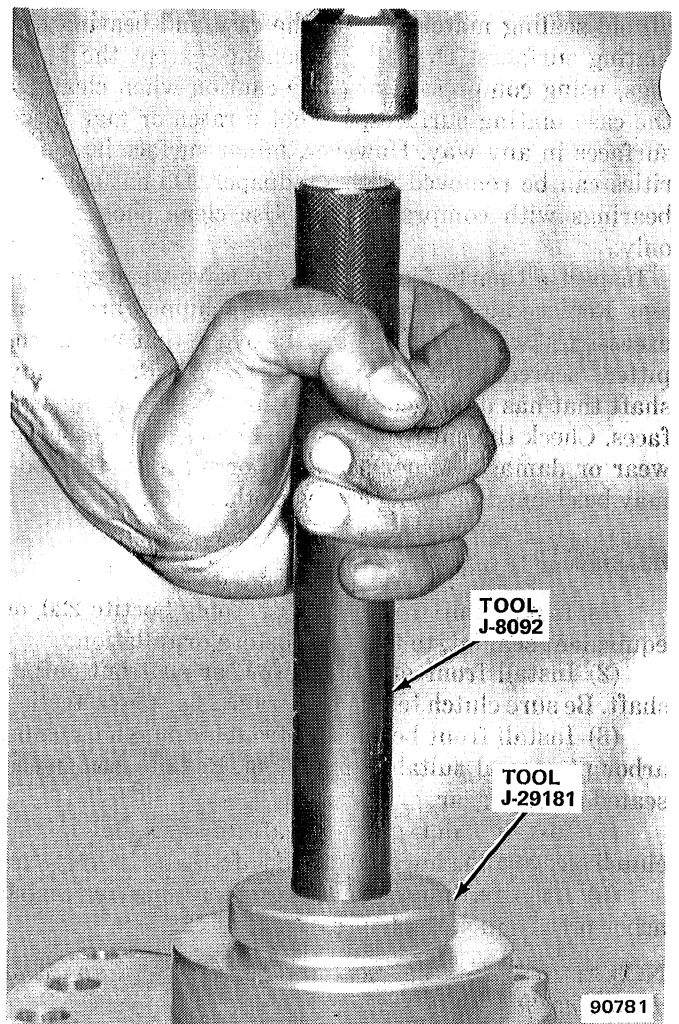

Fig. 2D-84 Front Output Shaft Front Bearing Race Installation
(35) Insert front and rear output shaft shift forks into case (fig. 2D-85).
(36) Install front output shaft shift rod poppet ball and spring in front bearing cap.
(37) Compress poppet ball and spring and install front output shaft shift rod part way in case.
(38) Insert front output shaft shift rod through shift fork.
(39) Align setscrew hole in shift fork and rod. Install and tighten setscrew to 14 foot-pounds (19 N•m) torque.
(40) Install rear output shaft shift rod poppet ball and spring in front bearing cap.
(41) Compress ball and spring and install rear output shaft shift rail part way in case.